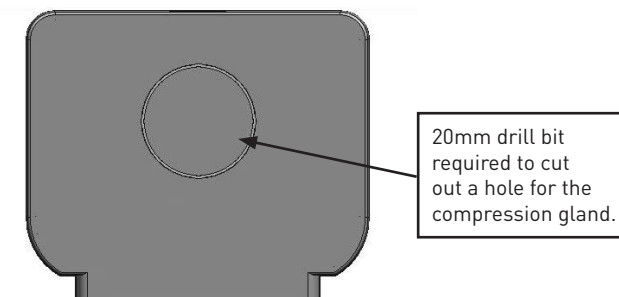

Fig 4 End cap
- The end cap can be drilled out (20mm drill bit) and a 20mm compression gland (not included) can be used (see Fig 4) to gain access to the terminal connector